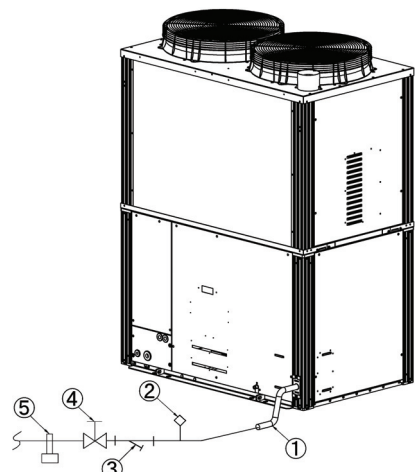

Fig. 10 Fuel Pipe Structure Diagram
As needed, attach devices ②, ③ or ⑤ to the outdoor unit external fuel gas pipe. (Fig. 10)
① Flexible gas hose ② Pressure release tap ③ Strainer ④ Master valve ⑤ Pipe bracket